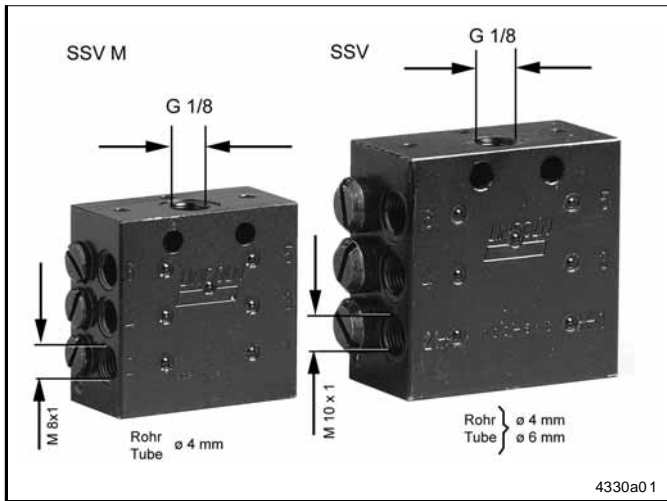

Fig. 11 Differences between SSV M and SSV
- Progressive divider valves **SSV M and SSV operate in the same way**. Apart from their outer dimensions (see below dimensions) they also differ in the following data (also see fig. 11).